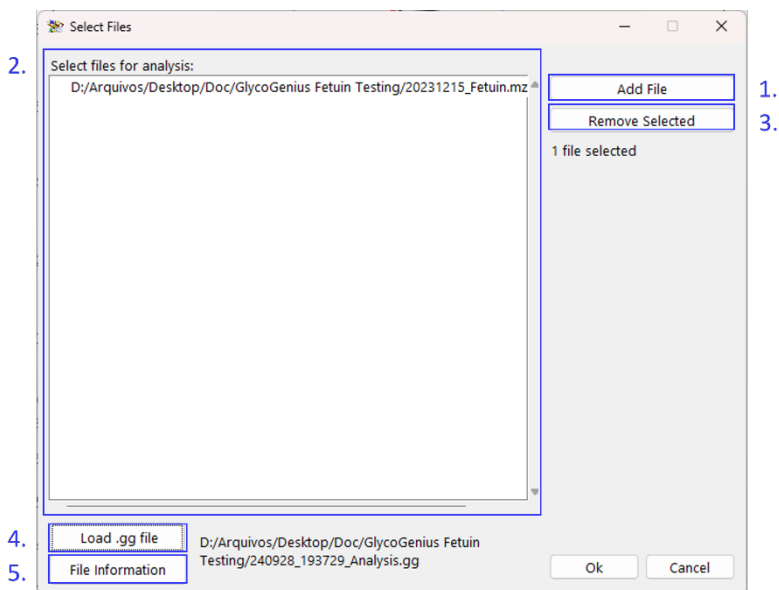

Fig. 7: Select files window. In this window you are able to select the raw data files to analyze and/or a .gg file to reanalyze.
3.2 The Select Files Window (Fig. 7)
5. **File information:** provides insights about the .gg file that is selected via 4. *Reanalyze .gg file (Fig. 7).*